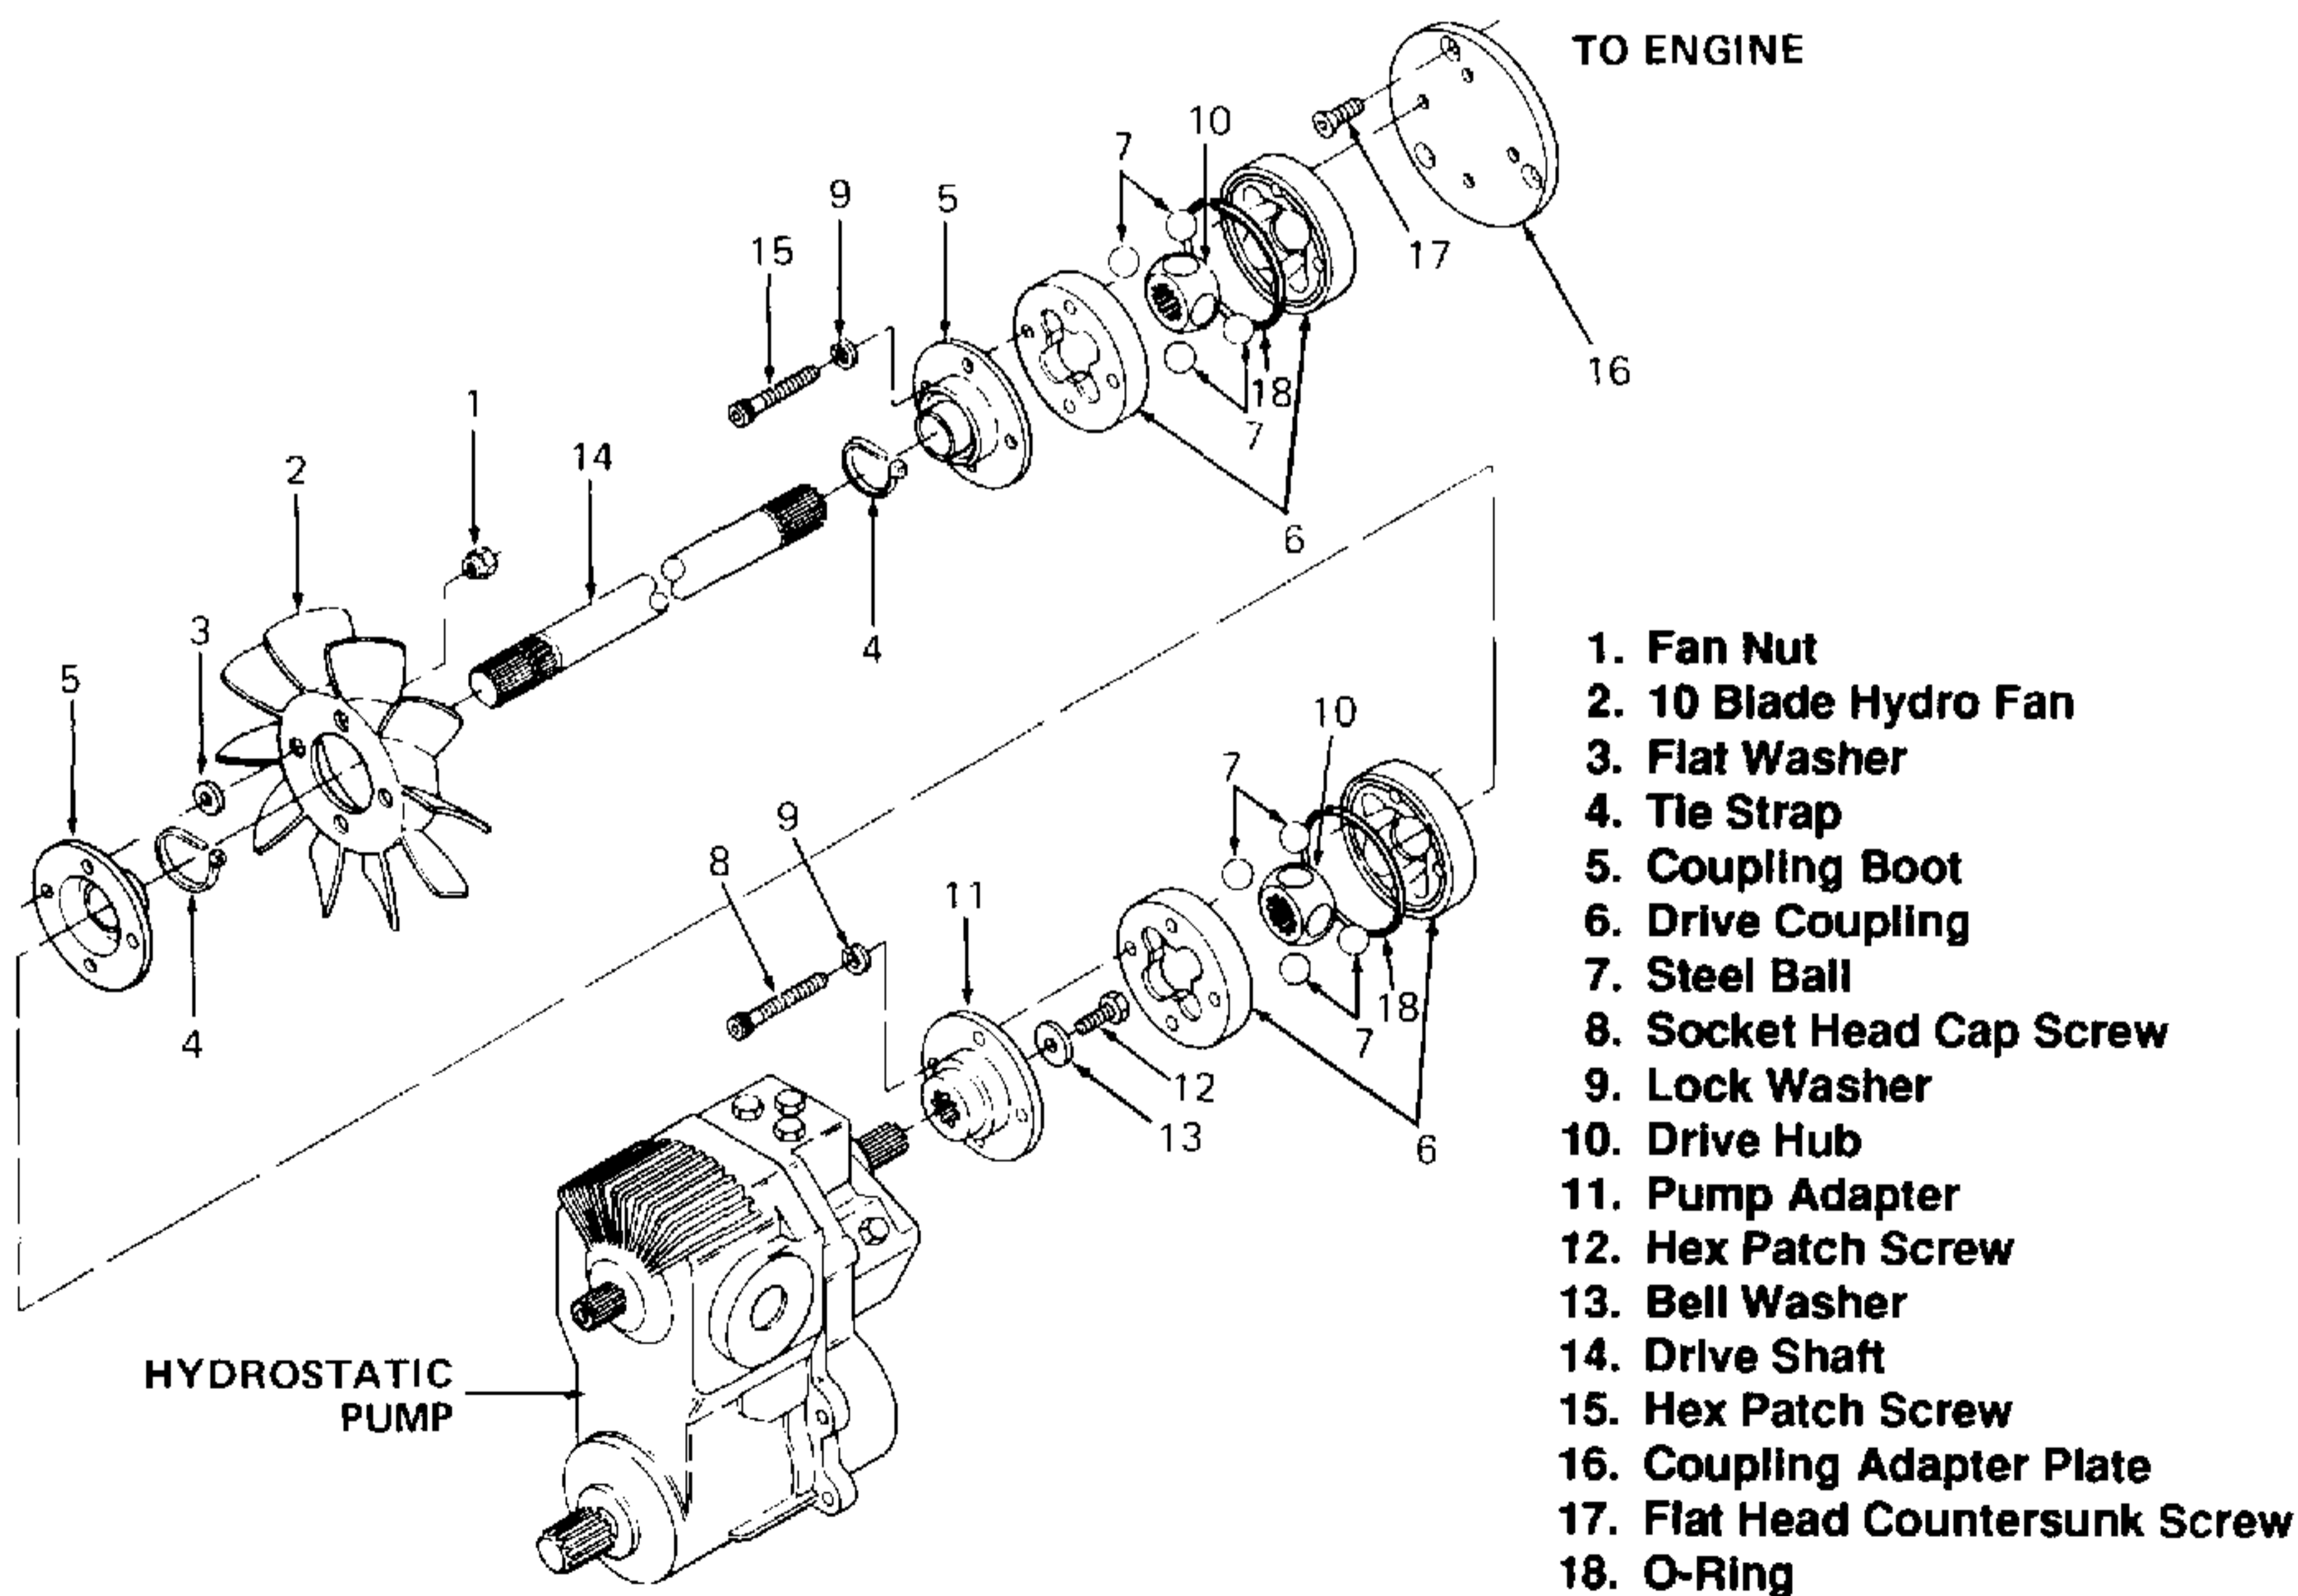

Figure 5-72. Drive Line (Models 1782, 1882, 2082 and 2182).
4. Remove drive shaft (14, Figure 5-72) as follows:
- a. Remove rear coupling assembly (6) from hydrostatic pump as follows:
Tractors prior to the 1991 model year (Serial Number 811,671 and below) were not equipped with O-rings (18). When circumstances permit, these tractors may be upgraded during repair by installing grooved drive couplings (6, Figure 5-72) with O-rings (18) seated.
6. Remove coupling adapter plate (16) by removing flat head countersunk screw (17).